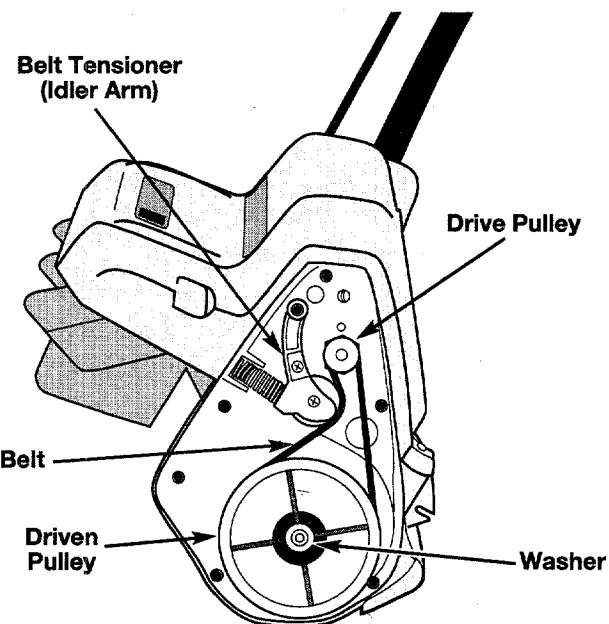

Fig. 8
3. Pull the belt tensioner (idler arm) away from the drive pulley. Remove the damaged or broken belt from the driven pulley and drive pulley inside of the housing (Fig. 8).
4. Loop the new belt around the drive pulley and driven pulley (Fig. 8). Pull the belt tensioner (idler arm) away from the drive pulley to install the belt around the drive pulley.
**NOTE:** Make sure the washer is still in place on the driven pulley shaft prior to reinstalling the belt case cover (Fig. 8).